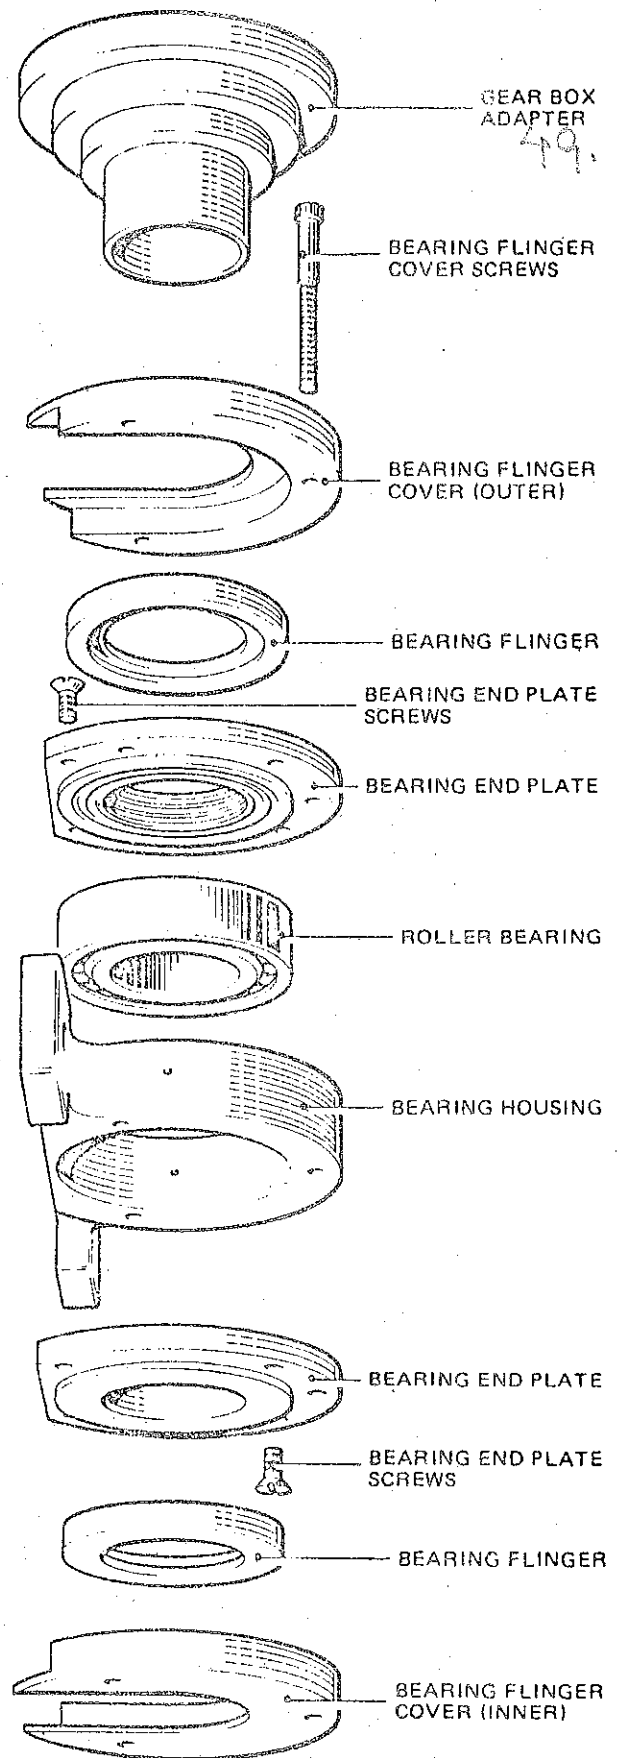

Figure 20. Front Bearing and Pillow Block Assembly
15. Removal of the Front Bearing (figure 20)